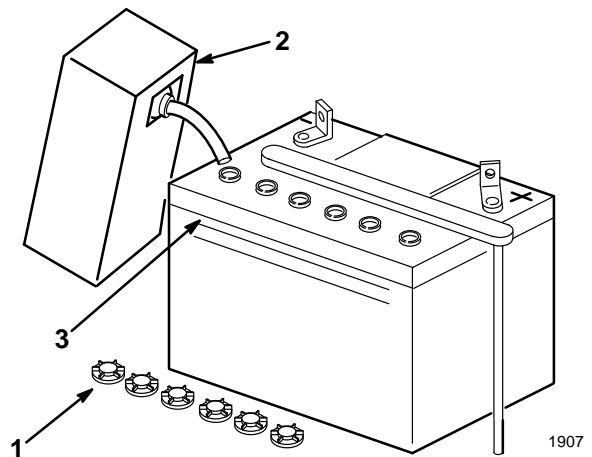

Figure 4
2. Unscrew six filler caps from the battery. Slowly pour electrolyte into each cell until the level is up to the "UPPER" line on the battery case (Fig. 4).
5. Slowly pour electrolyte into each cell until the level is once again up to the “UPPER” line on the battery case (Fig. 4).